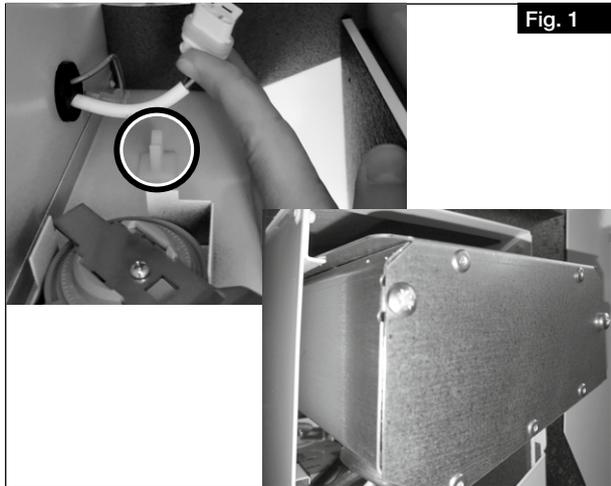

Fig. 1
1. Remove the electrical pre-heater connection plug from the clip upwards (see Fig. 1).
2. Place electrical pre-heater into the guide rail and insert into the shaft (see Fig. 1).
- ① **Ensure that the electrical pre-heater connection cable is located towards the centre of the unit and not towards the outside of the ventilation unit.**
3. Place electrical pre-heater into the guide rail (see Fig. 1).